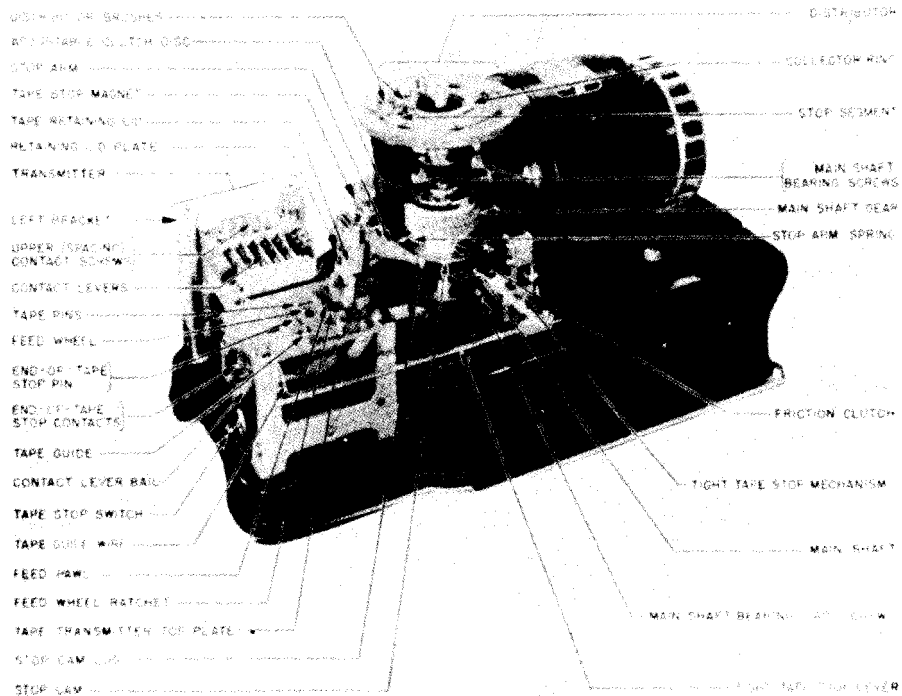
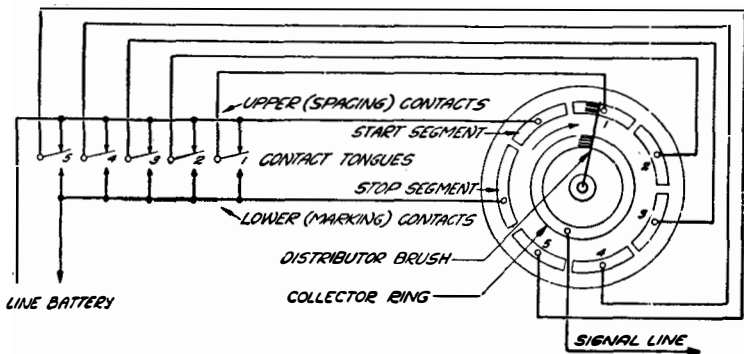
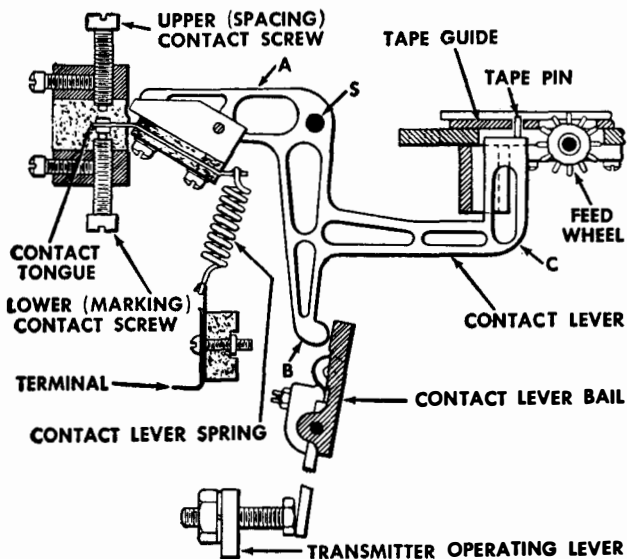

Figure 9-11.—Transmitter-distributor, cover removed.
Figure 9-12.—Distributor segments and wiring.
Figure 9-13.—Contact assembly.
The portion of the unit through which the perforated tape feeds is known as the transmitter (fig. 9-11). Its function is to
prepare electrical paths to the commutator segments of the distributor (fig. 9-12). These paths are controlled by tape pins which sense the perforations in the tape and thereby determine the positions of the contact tongues (fig. 9-13) with relation to their upper and lower contact screws.
The contact levers (fig. 9-13) are positioned vertically in the transmitter. They pivot on a shaft (S), and have extensions to
When the distributor brush comes to rest on the stop segment (figs. 9-12 and 9-13), the transmitter operating lever roller is on the peak of its cam, thereby holding the tongues against the spacing contacts and also holding the tape pins (located in the right-hand extensions of the contact levers) below the holes in the tape. As the transmitter operating lever roller rides to the low part of its cam, the tape pins rise. If tape perforated with code combinations is in the tape guide at this time, the contact lever pins will project through the tape wherever perforated, permitting the associated contact tongues to rest on the marking contacts. Pins will be blocked at the unperforated portions, and the associated contact tongues will be held against the spacing contacts. The tape will be held stationary, and the contact tongues will maintain their positions as determined by the code perforations, while the distributor brush is transversing segments 1 to 5, inclusive. The inner distributor will transmit (1) marking impulses to the line from segments associated with tongues that rest on the lower contacts, and (2) spacing impulses from segments associated with tongues that are on the upper contacts.
The distributor (fig. 9-11) is made up of 2 concentric conducting rings mounted on a fiber disk. The outer ring is divided into 7 segments. Segments 1 to 5, inclusive, correspond to the 5 intelligence intervals of the 5-unit code and are connected to 5 contact tongues shown in figure 9-12.
Positioned to the rear of the contact levers and pivoted on the contact lever shaft is a feed lever similar in shape to a contact lever. The feed lever has a spring attached to its left-hand extension and a feed pawl mounted on its right-hand extension (*C*). A feed pawl spring holds the feed pawl in contact with a feed wheel ratchet. Pins on the circumference of the feed wheel (figs. 9-13 and 9-14) project through an opening in the tape guide and mesh with the feed holes in the tape. A retaining lid, under which the tape passes, holds the tape in contact with the feed wheel pins. When action of the contact lever bail on the contact lever moves the tape pins downward, the feed lever responds in a similar manner, causing the feed pawl to engage a tooth on the feed wheel ratchet and rotate the feed wheel. With each downward motion of the feed pawl, the tape will be advanced from right to left the distance required to bring the succeeding code combination over the tape pins. The setting of the feed pawl is such that it does not start to rotate the feed wheel until the tape pins have moved clear of the tape. The feed wheel detent is provided to ensure alignment of the code perforations with the tape pins. The position of the operating cam with relation to the distributor brush is such that the contact tongues are not moved from the lower contacts until after the brush has reached the stop segment. While the brush is passing over the stop segment, the tape is advanced.